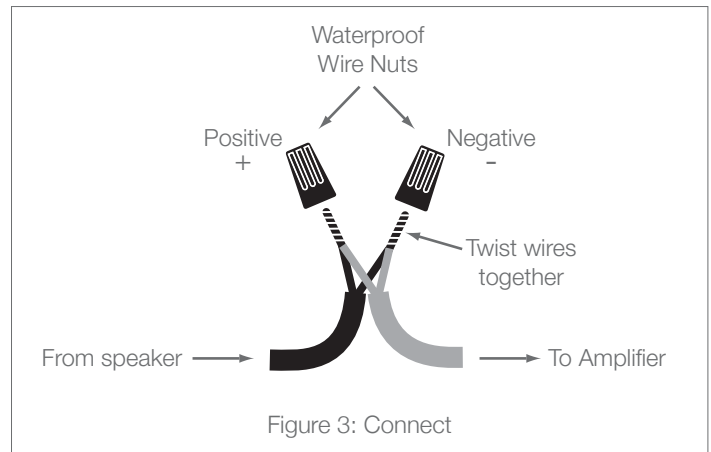

Figure 3: Connect
9. Connect the direct burial wire to each speaker wire, connections should be made with either silicone filled wire connectors or appropriate junction boxes. See Figure 3.